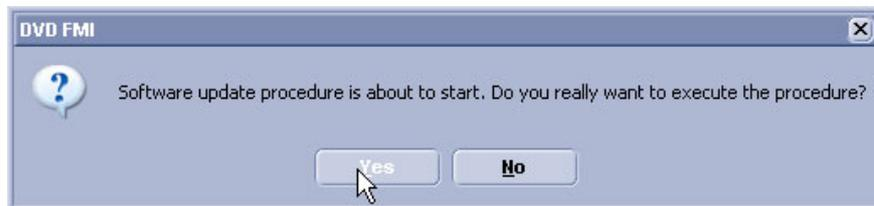

Figure 8-21 Yes - start update procedure
11.) To start update procedure click YES (Figure 8-21 below).